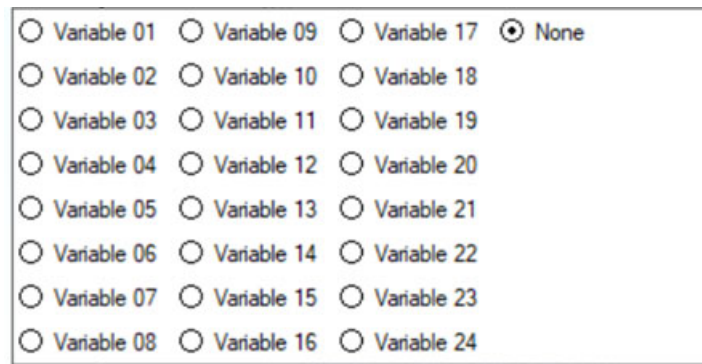

Figure 79: Dynamic Text Variable List
- Dynamic text – if the text content is to be dynamically loaded, choose one of the variables in the list (see Figure 79) to store the dynamic text content. You can refer to Figure 7.9.10 on page 168 for loading a value to a variable. For static text content, keep 'None' checked and define the text content in 'Text' field.
- Dynamic Text – if the text content is to be dynamically loaded, choose one of the variables in the list (see Figure 79 on page 103) to store the dynamic text content. You can refer to 'Action Control' -> 'Load Register' action on how to load a value to a variable. For static text content, keep 'None' checked and define the text content in 'Text' field.